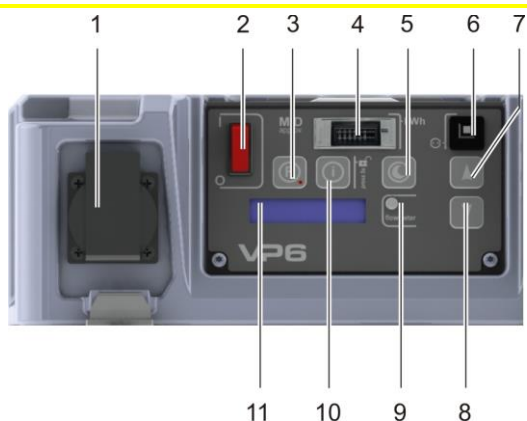

Fig. 5: Operating panel Soundbox VP6
3. Switch on the soundbox via the On/Off switch (s. page 8, fig. 5, item 2).